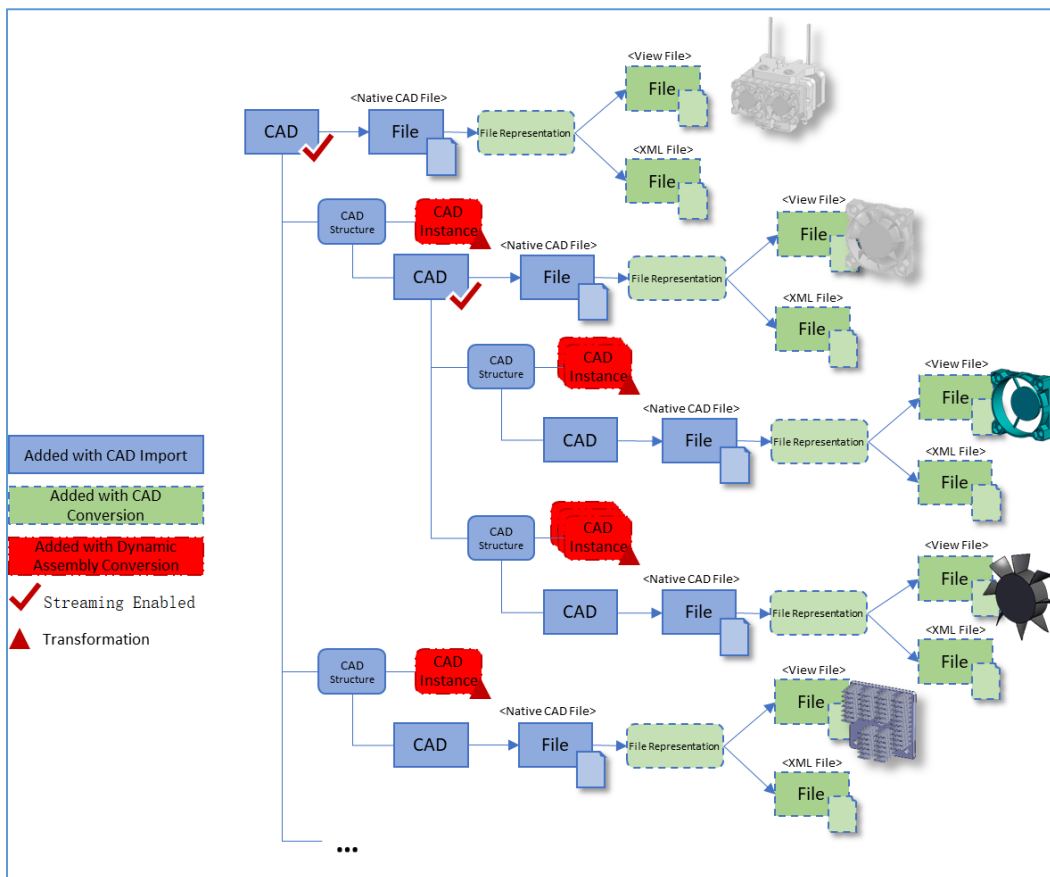

Figure 9.
The Streaming Viewer is used only for assemblies and displays SCZ view files as determined by the results returned from the execution of an associated Query Definition (QD). Figure 9 shows the process of rendering the view file in the Streaming Viewer.
A TGV is populated with a response generated from the execution of an associated QD. In addition to the **CAD** Items that form the Query basis, administrators can add other related ItemTypes whose Properties should be displayed in the TGV UI. Using TGV Definitions, administrators can choose which Items to display, what Properties to include, how to format the Property values, static text, what columns to include, and alternative icons. For example, Figure 9 shows the left-most Tree column with nodes for the following Items that display the following properties for a given Item: